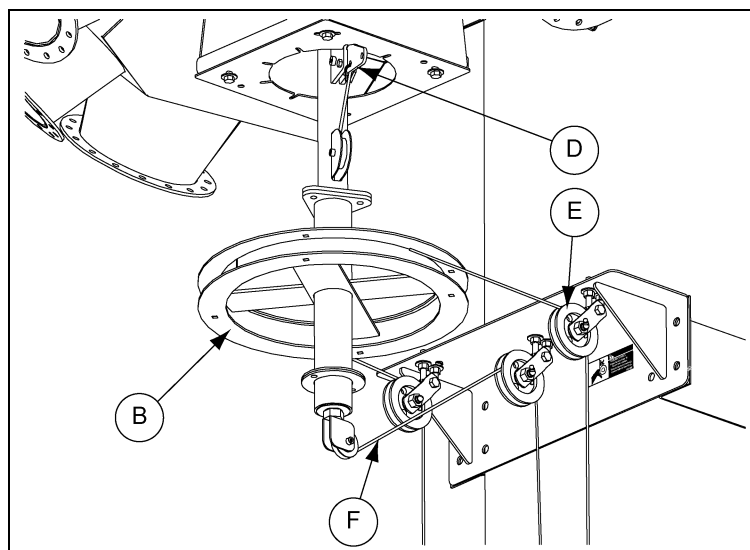
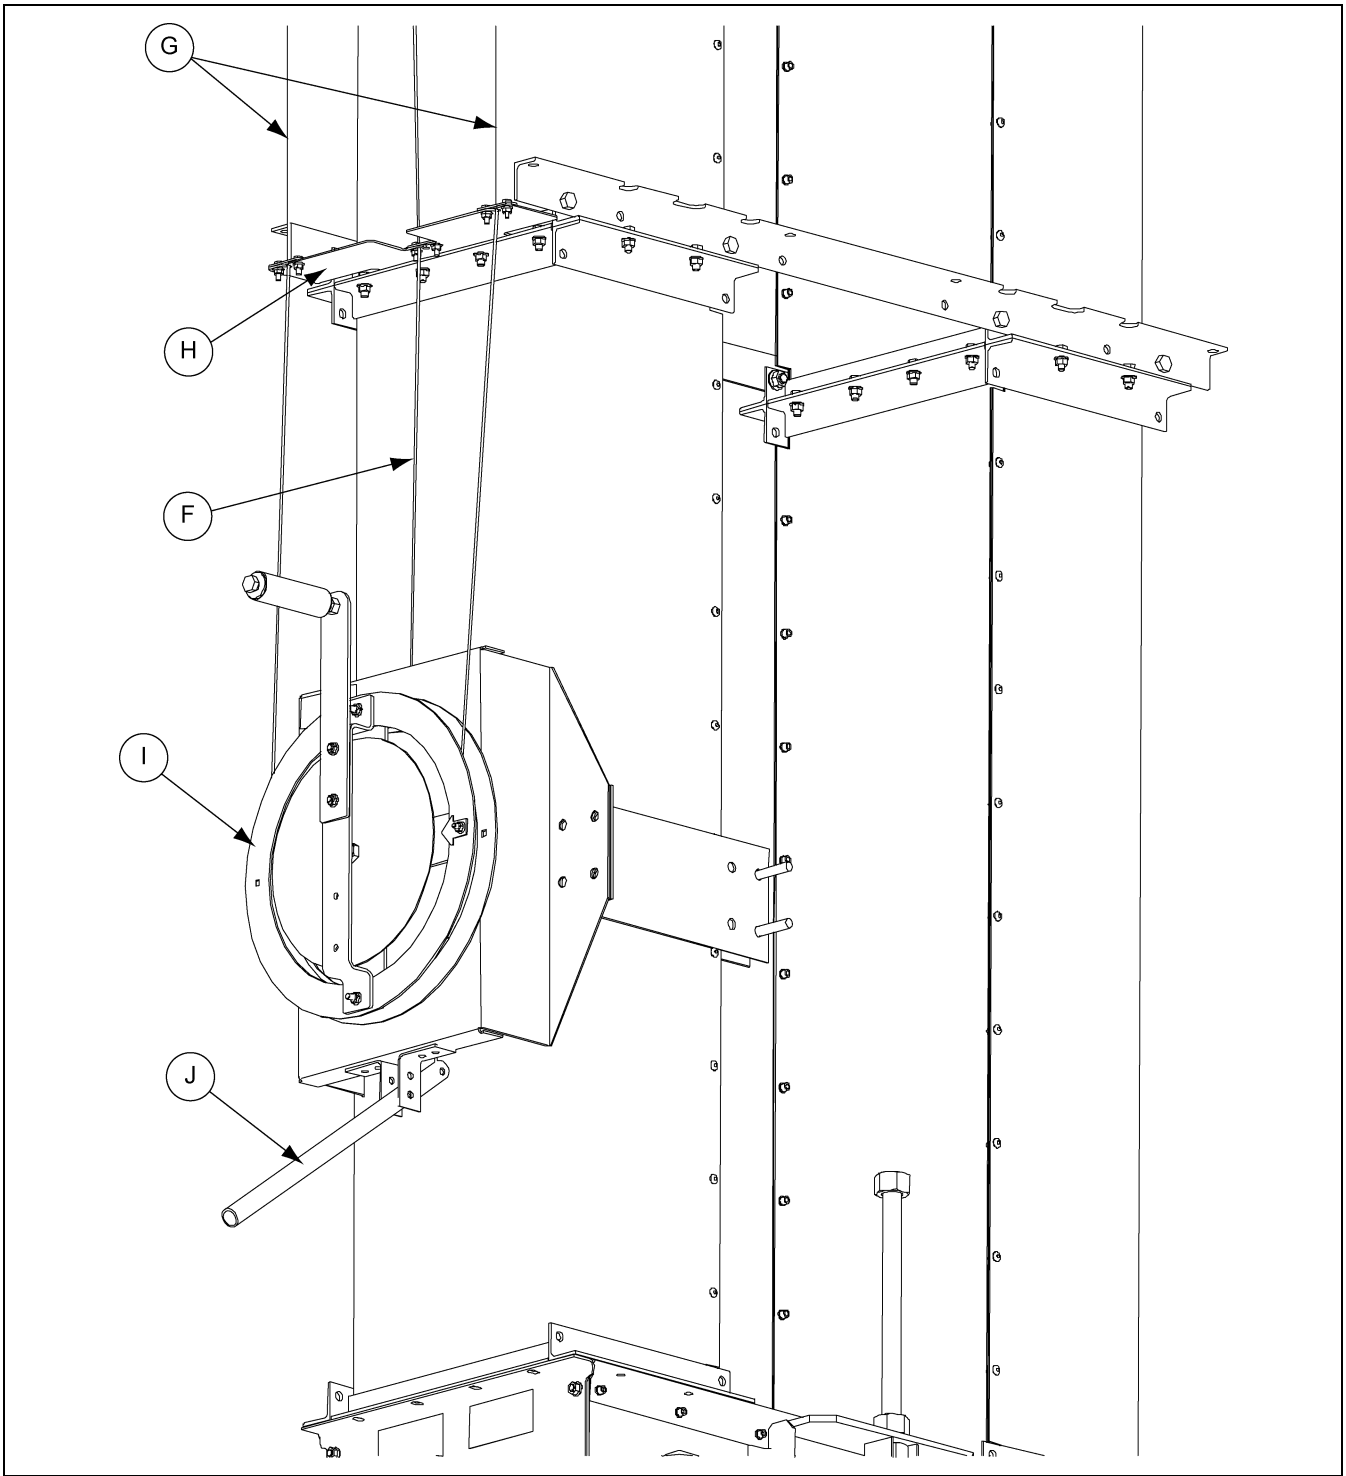
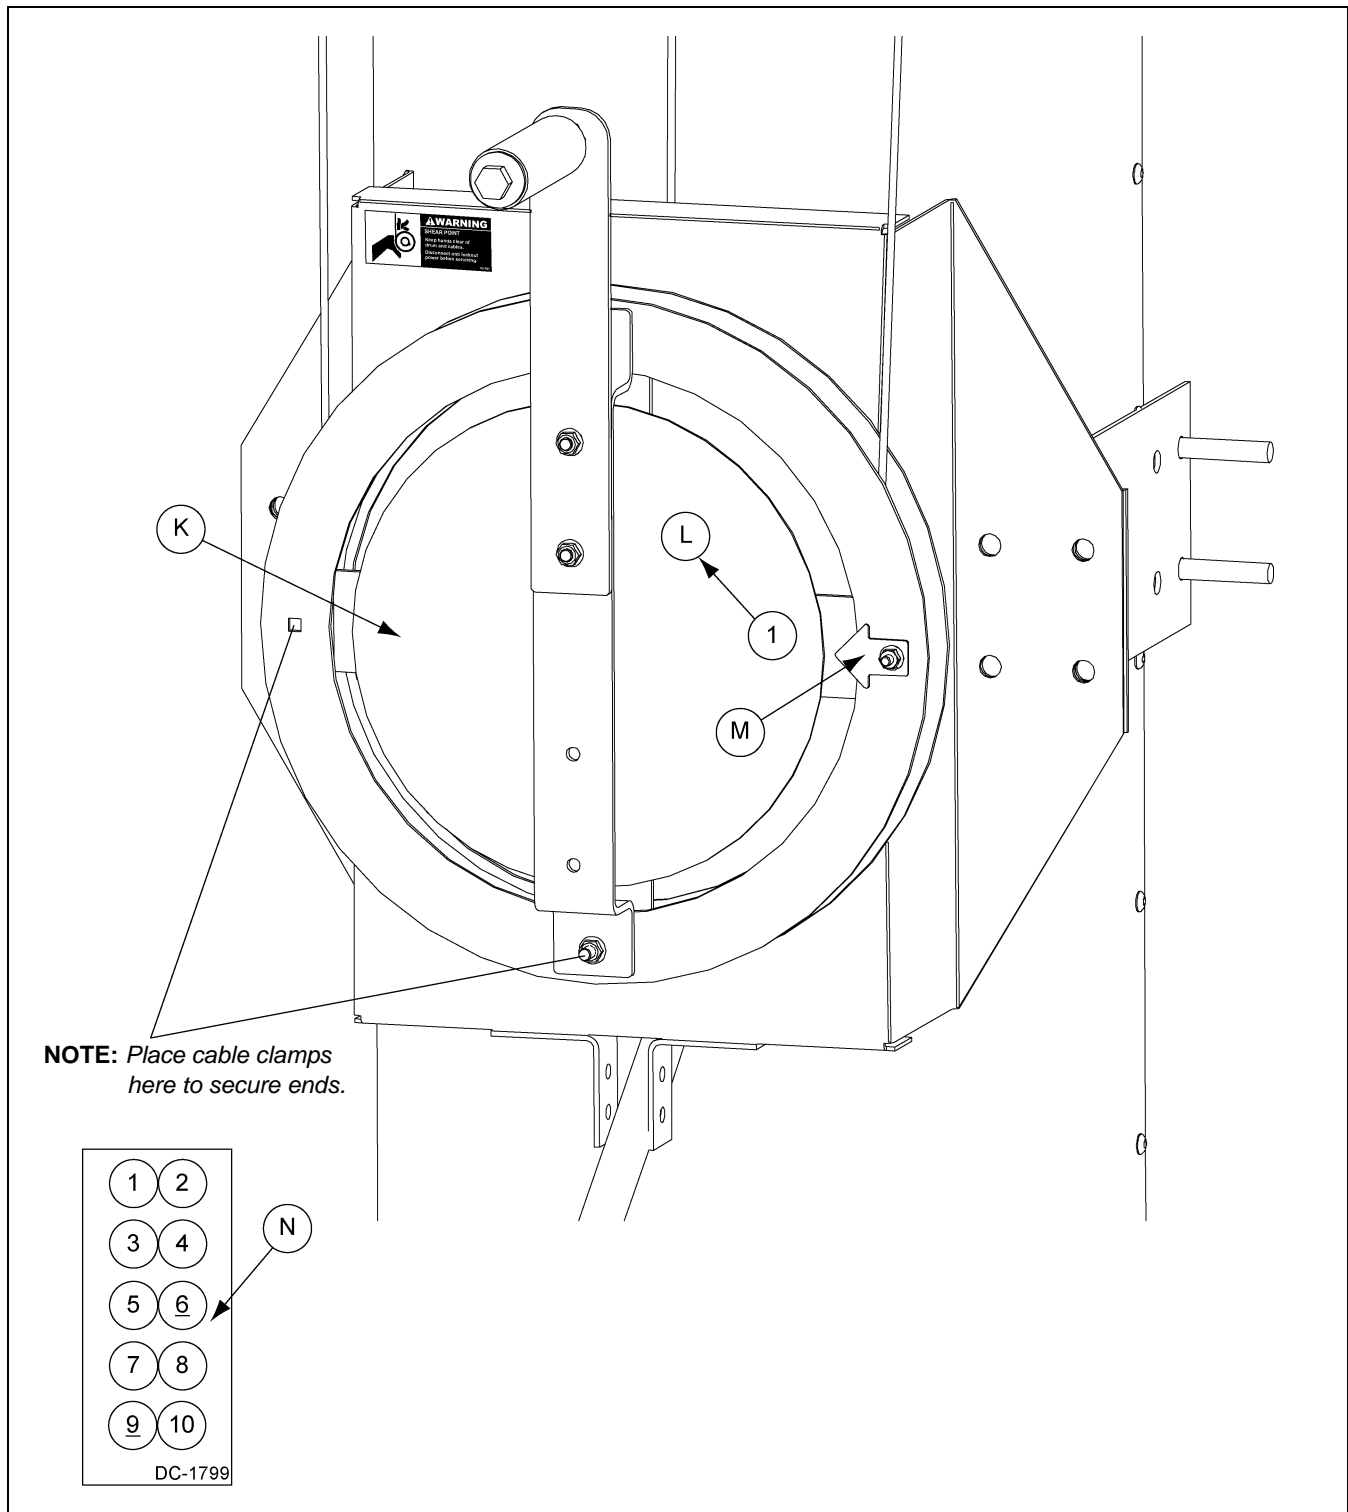

Figure 5J
Figure 5K
Figure 5L
Run both ends of the cable through the cable guides (See Figure 5J), continue down through the intermediate cable guides along trunking (See Figure 5K on Page 20), down to the lower cable wheel. Wrap each end of the cable 1 full wrap and then cable clamp both ends. (See Figure 5L on Page 21.)
This cable is used to release the index trigger so that the spout can be turned. This cable should be able to reach from the control handle at the bottom side of the lower control wheel (See Figure 5K on Page 20), up over the center pulley of the cable guide assembly, under the connector pulley assembly and tie off at the index trigger. (See Figure 5J.) Allow some extra cable to be able to tie off at both ends.
2. Using the index number decal (decal part #DC-1799), peel off one of the numbers (numbered 1 through 10) and place on the spout decal plate in front of the spout position arrow. (*See Figure 5L on Page 21.*)